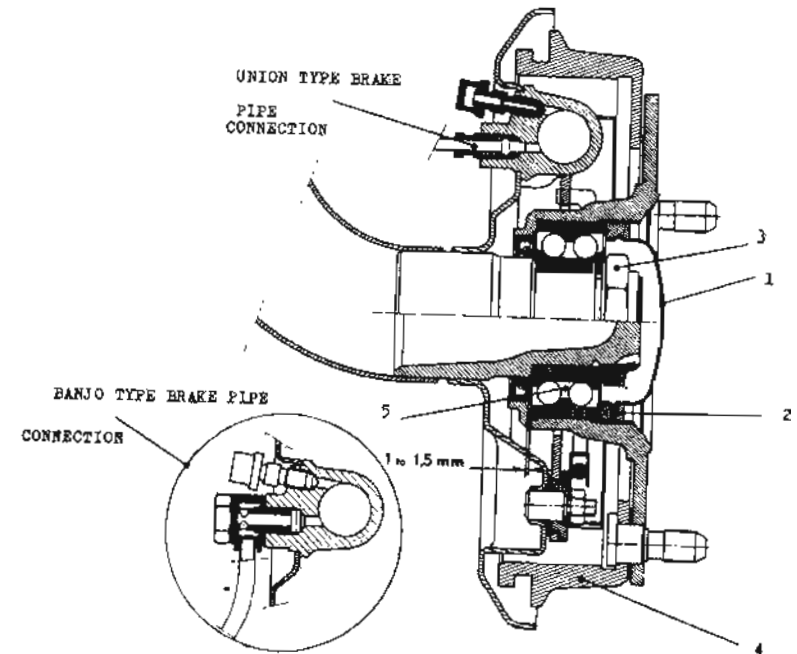

FIG. 38 CROSS SECTION THROUGH REAR BRAKE DRUM AND HUB.
(vi) **Inspect and/or renew Rear brake shoes (linings) (Fig. 38 and 39)**
Using a sharp tool pierce grease cap (1) (fig.38) and lever it out of ringnut (2), this operation wrecks the cap. Bend back the peening from the top of the shaft nut (3).